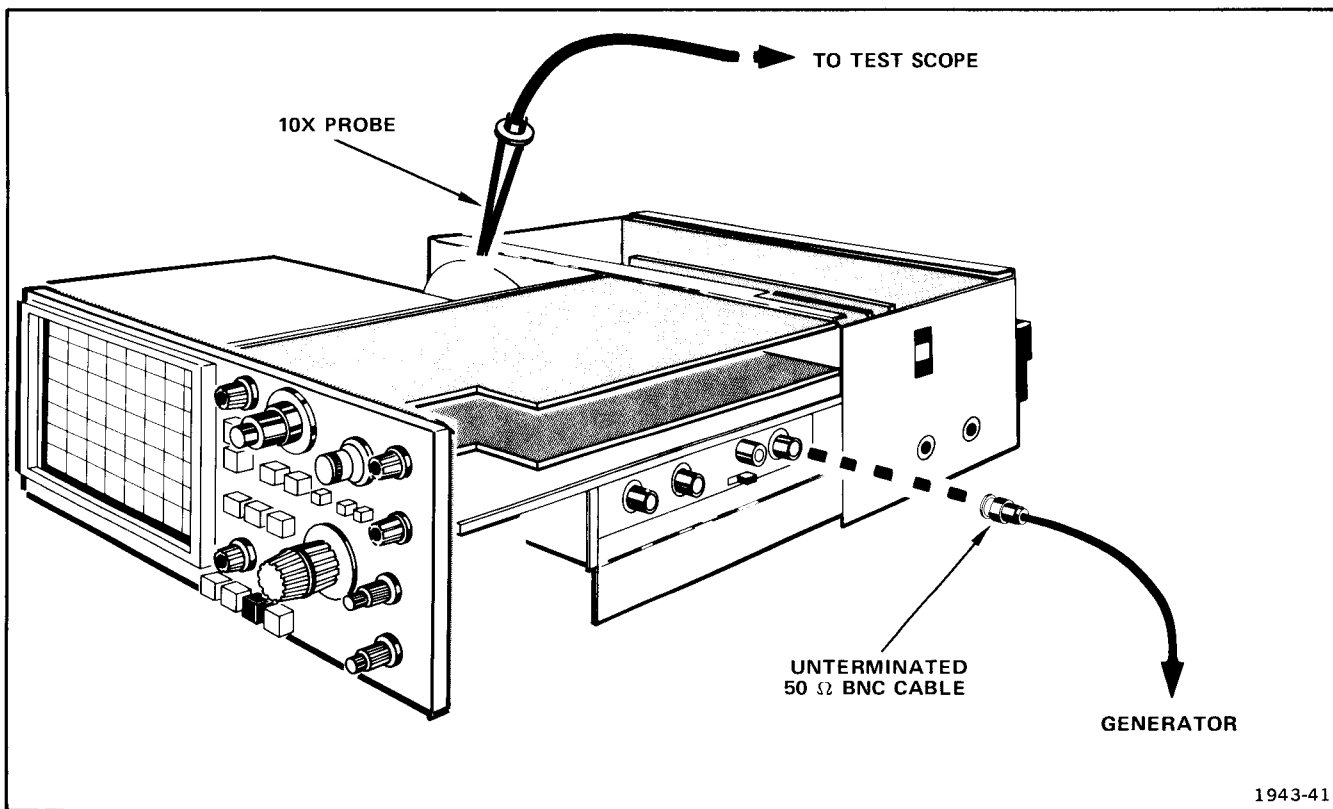

Fig. 6-17. Equipment setup.
d. Connect Levelled Sine-Wave Generator to EXT TRIG OR HORIZ INPUT and 10X probe to right horizontal deflection plate as shown in Fig. 6-17.
- c. Reconnect test equipment as shown in Fig. 6-17 (probe to right horizontal deflection plate and amplitude calibrator to EXT TRIG OR HORIZ INPUT connector).